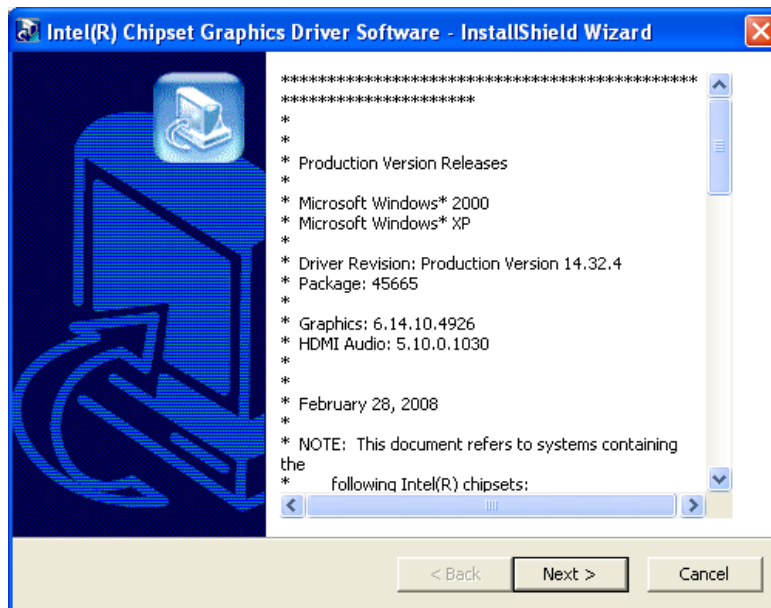

Figure 6-8: Graphics Driver Read Me File
Step 4: The **Read Me** file in **Figure 6-8** appears.